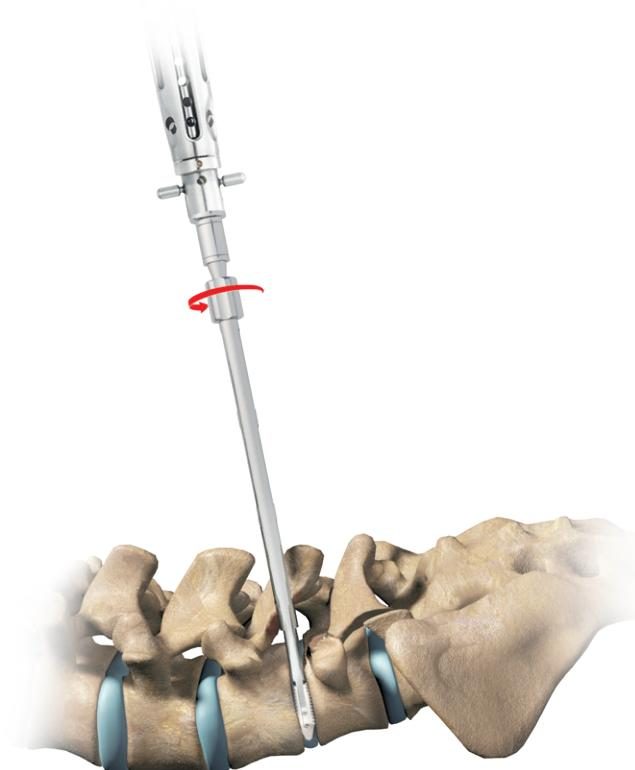

Fig. 12a
4. Attach the Slap Hammer by aligning it to the Implant Remover, pulling up the two prongs and sliding it down, then turning it clockwise to lock it. **(Fig. 12a)**